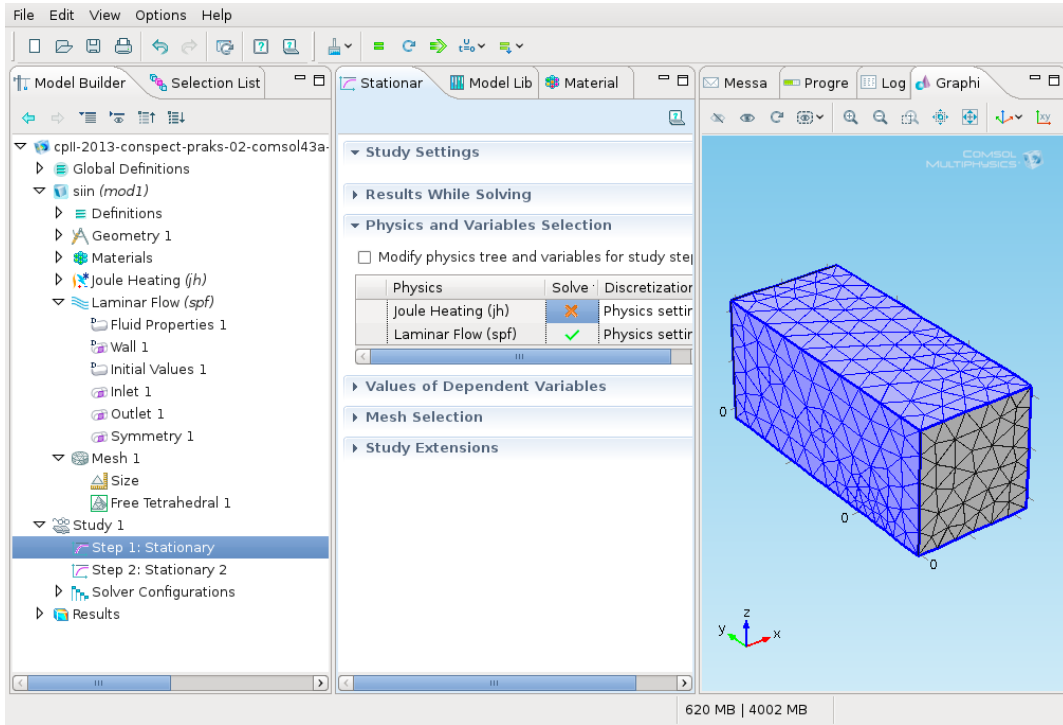

Figure 25: The parameters of the first study-step.
- 2 Each study step should have correct physics interfaces active. Therefore remove the Joule Heating from the first study-step: **Study 1** → **Step 1 : Stationary** (Fig. 25).